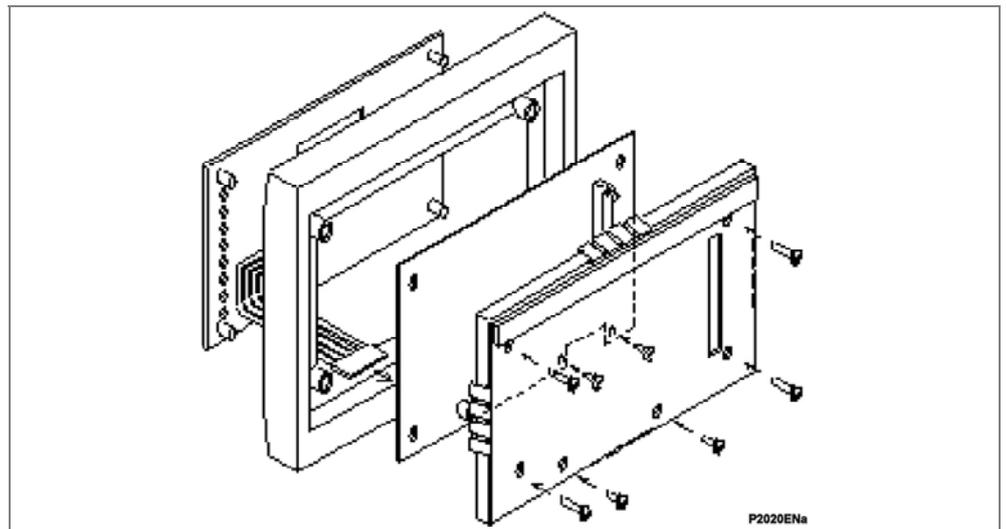

Figure 2 - Front panel assembly
1. Place the front panel with the user interface face-down and remove the six screws from the metallic screen, as shown in Figure 2. Remove the metal plate.